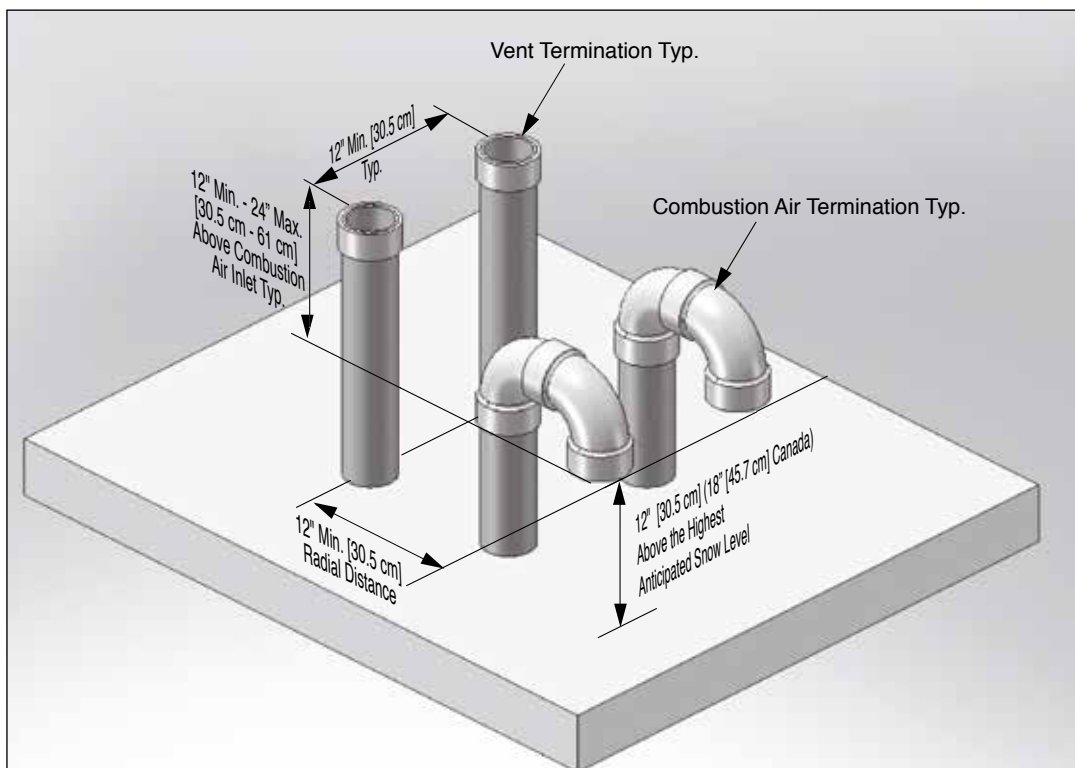

Fig. 5 - Direct Vent - Vertical Termination of Multiple INSTINCT Boilers
2. The roof penetration of the vent and combustion air piping must be such that the combustion air inlet is a minimum 12" [30.5 cm] from the adjacent vent pipe of the other boiler for installations in the U.S. as shown in *Fig. 5 on page 14*. For installations in Canada, provide clearances as required by CAN/CSA B149.1.